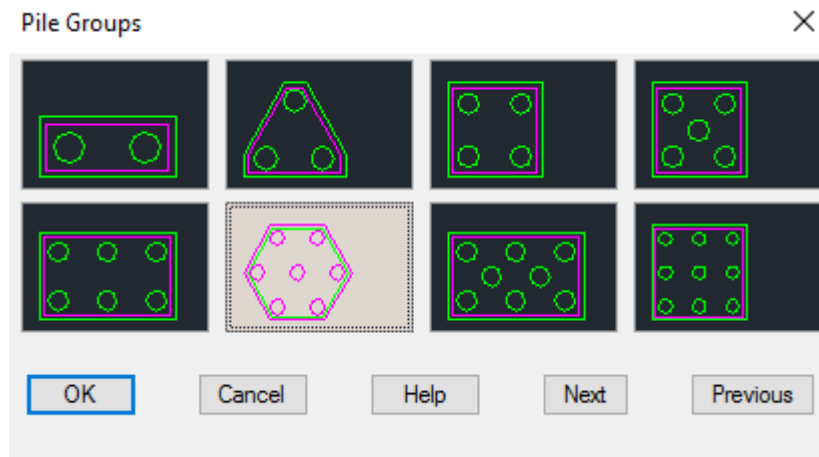

Figure 13.4.5:1 Pile Groups dialog
- Set the pile diameter to 350, the Longitudinal factor to 3.00 and the Overhang to 200 as shown in figure 13.4.5:2 below